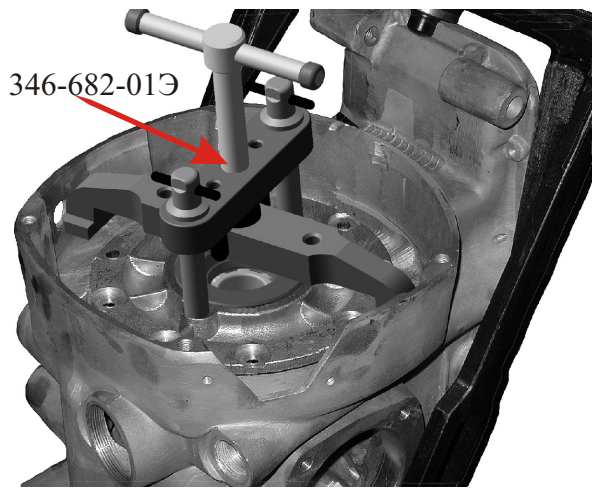

Fig. 17
- Turn off the bolts and remove the rear housing making use of removing tool 346-682-01 (Fig. 17);